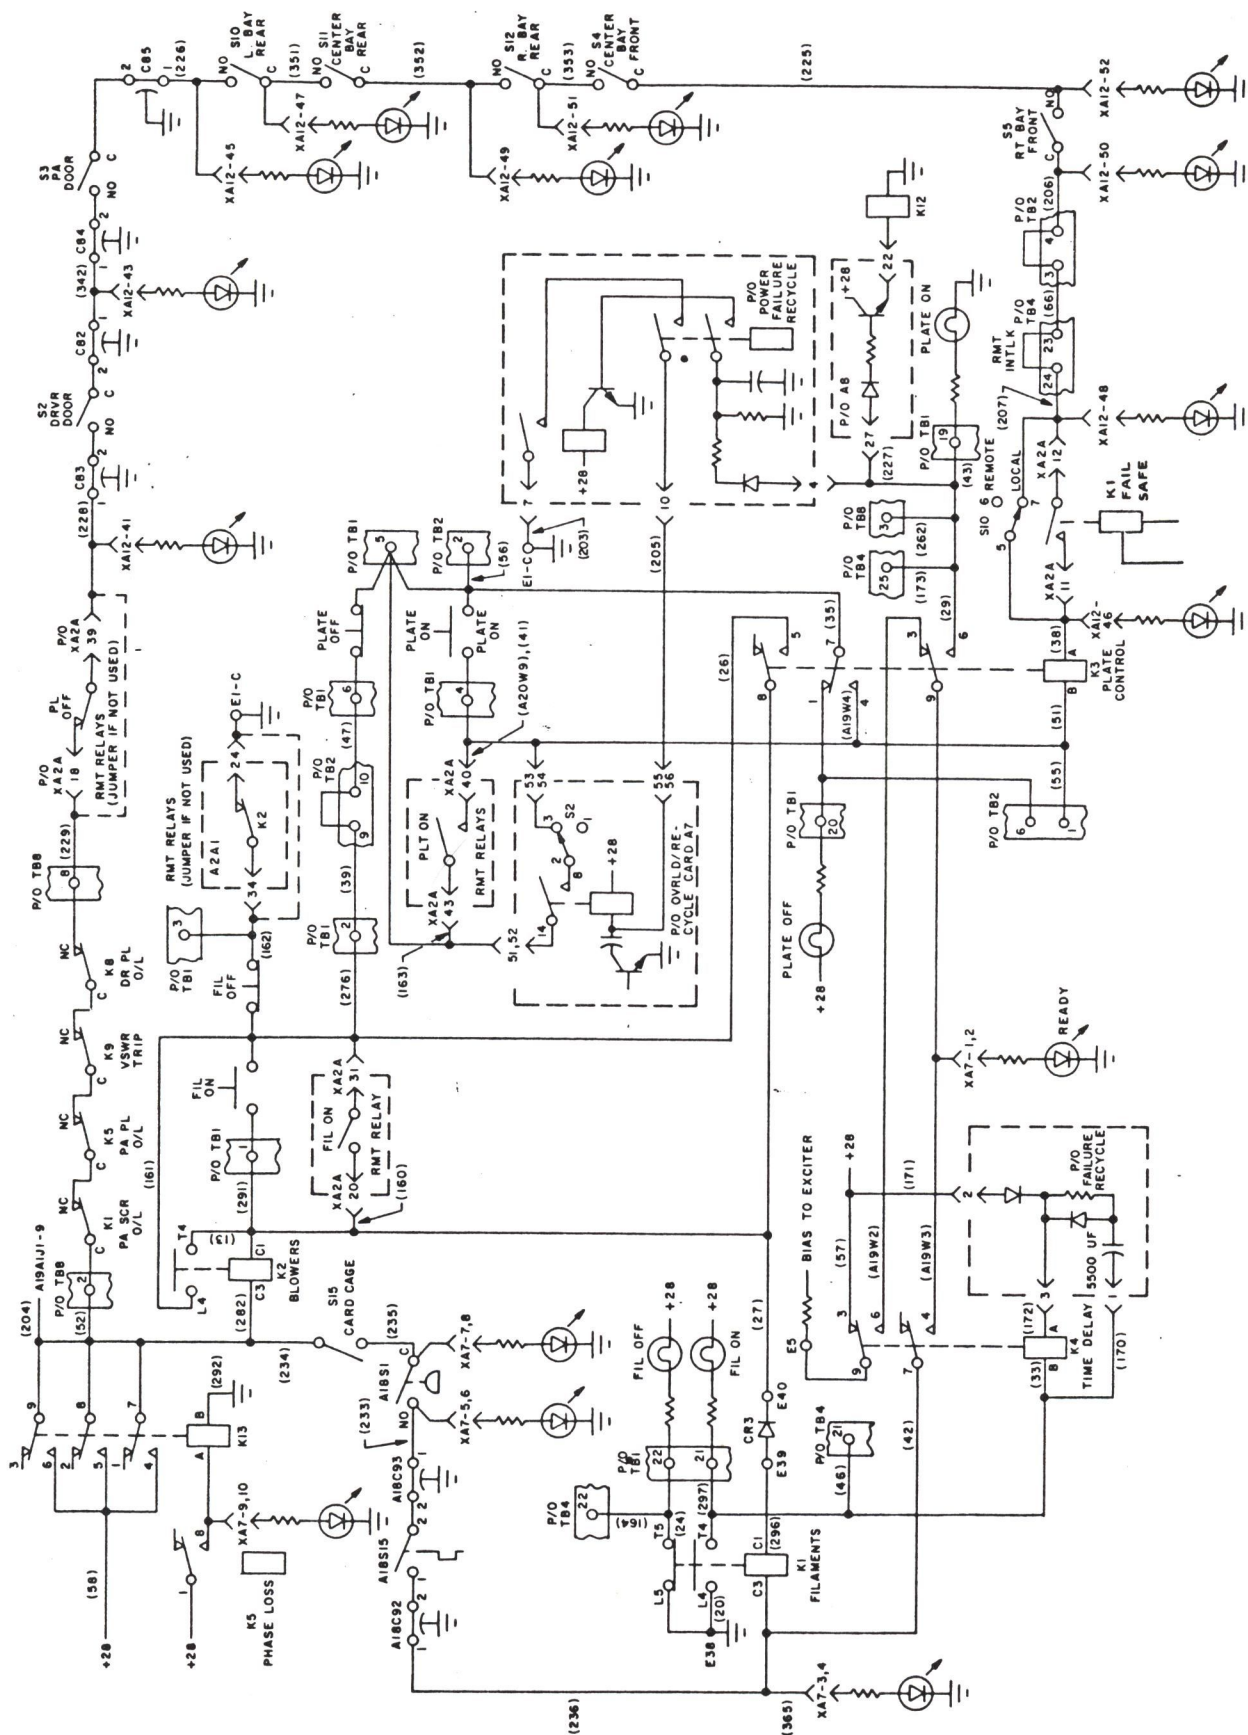

Figure 4-7. Power ON-OFF Control Circuits
The transmitter is energized by pressing FILAMENT ON switch S10 in the Control Panel, A1 (Figure 4-7). Relay A19K2 is energized and power is applied to the blower motors. After sufficient air pressure is created in the power amplifier cabinet, air switch A18S1 is closed and relay A19K1 is energized.
- \* An output override voltage is supplied to the 802A exciter when the plate voltage is turned off. This turns off the output of the exciter while the PA plates are off (Figure 4-7). The voltage is applied from the 28-volt power supply through contacts 3 and 9 of relay A19K4 to the 802A exciter power supply regulator.